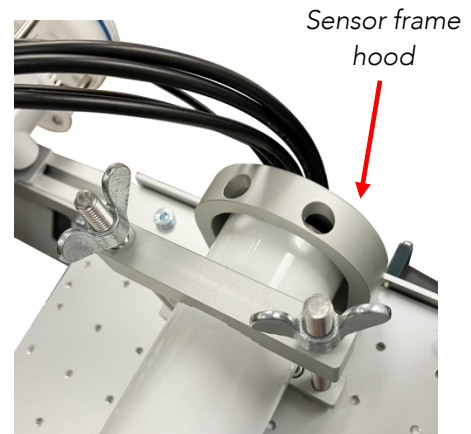

Figure 14. Top pole section inserted through pole clamp
6. Make sure the wingnuts on the long bolts are loosened enough to slide the pole clamps back a few inches, then slide the top pole section through the pole clamps on the back of the sensor frame until the plastic cap on top of the pole section is against the sensor frame hood (Figure 14).